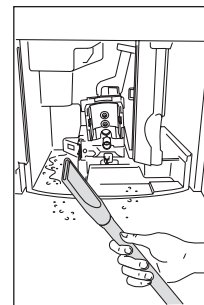

Fig. 38
- ▶ Remove the residues with a vacuum cleaner (Fig. 38).